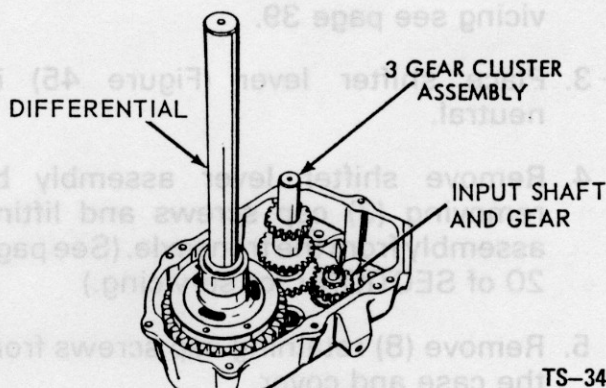

Figure 48 - Three Gear Cluster
10. Lift out the three gear cluster and idler shaft assembly. (Figure 48)
11. Remove the differential assembly (Figure 48). For servicing see page 38.
12. Remove the input shaft and spur gear from the case. (Figure 48)